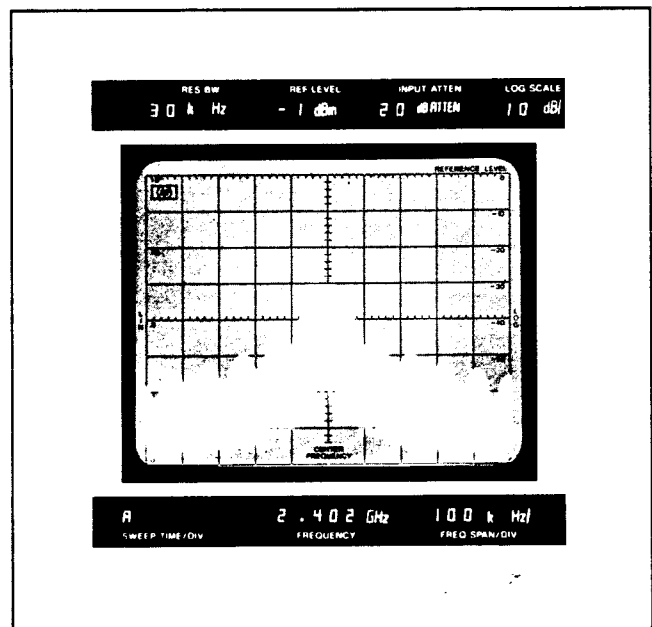
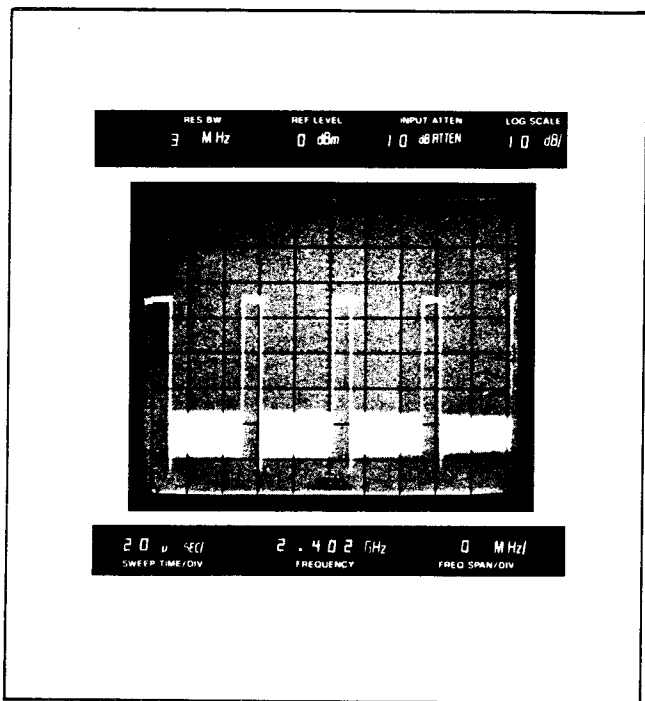

Figure 33. Pulse spectrum
Figure 34. Demodulated pulsed RF signal in ZERO SPAN
For a duty cycle of 0.05,  $\alpha_L = -26 \text{ dB}$ . Hence the peak pulse power in Figure 33 is -22 dBm (-48 dBm +26 dB).
An alternate method of measuring a pulsed RF signal is in the *pulse* spectrum mode. In a *pulse* spectrum, the individual spectral lines are not resolved. If the RESOLUTION BW of the analyzer is greater than  $1.7 \times \text{PRF}$ , then the pulsed RF signal is being viewed in the *pulse* spectrum. Using the pulse spectrum enables a wider resolution bandwidth to be used. Two benefits result from this: first, the signal-noise ratio is increased because the pulse amplitude increases linearly with the resolution bandwidth (BW) whereas random noise increases only proportionally to the  $\sqrt{\text{BW}}$ . Hence the signal-noise ratio of the analyzer is effectively increased. Secondly, faster sweep times can be used because of the wider resolution bandwidths. The HP 8565A has a 3 MHz RESOLUTION BW which enables it to effectively display pulsed RF signals in the pulse spectrum. The 3 MHz bandwidth, along with fast sweep times, also enables narrow pulse widths to be measured in the time domain. Figure 33 illustrates a signal in the pulse spectrum. The same signal is demodulated with the analyzer in Figure 34.